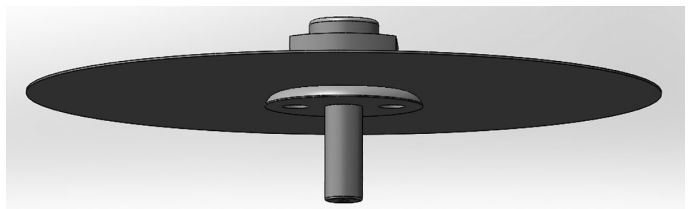

Figure 2
1. Remove adjusting screw assembly (8) completely out of the spring housing (6).
2. If valve is removed from the line, clamp the valve in a vise using the body (14).
3. Remove diaphragm casing bolts (13), spring housing (6) and upper diaphragm casing (2).
4. Remove range spring (12) and spring seat (5).
5. Remove diaphragm assembly parts (1), (3), and (4). See Figure 2.
7. Remove seat holder (9), seat (10) and plug (7) from body (14).
8. Place new plug (7) into body chamber. Make sure the bottom stop rod (bigger end) of the plug (7) goes down inside the return spring (14).
9. Place the new seat (10) into the seat holder (9) and carefully install into body cavity (14) taking care not to bend the narrow rod on top of the plug (7) when it passes through the seat holder (9). Tighten 30° past contact.
10. Refer to Figure 2. Unscrew the lower diaphragm plate (1) from the upper diaphragm plate (4). Discard the old diaphragm (3) and reassemble with new one. Use Lowflow replacement diaphragm only. Place diaphragm assembly parts (1), (3), and (4) back into body cavity (14), making sure the small counterbore on the bottom of lower diaphragm plate is properly engaged with the narrow tip of the plug (7) which protrudes through the seat holder (9).
11. Replace range spring (12), spring seat (5), centering both on top of the upper diaphragm plate (4). Replace housing (6), upper diaphragm casing (2), diaphragm casing bolts (13), and adjusting screw (8).